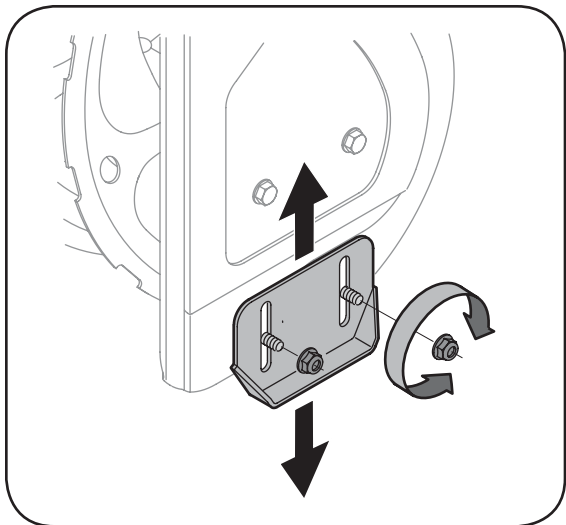
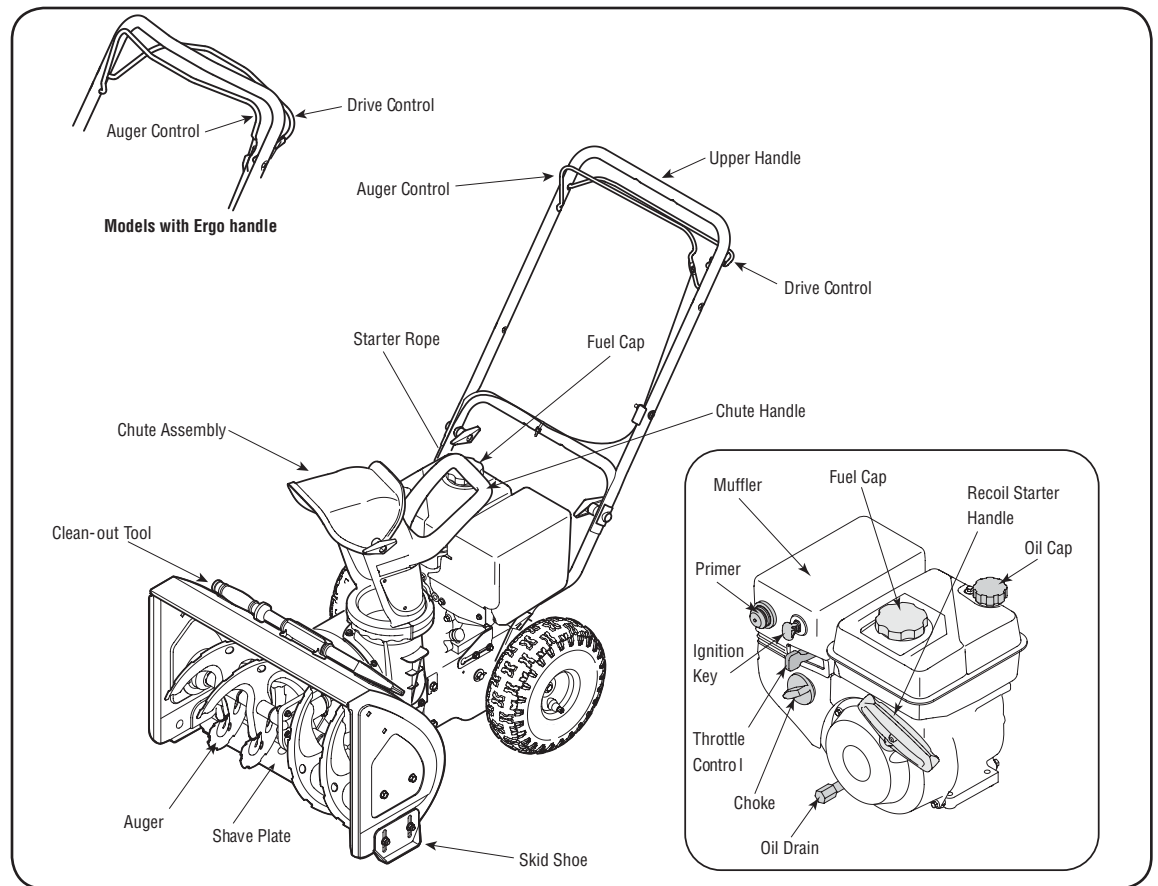

Figure 5
Figure 7
The space between the shave plate and the ground can be adjusted. See Figure 7. For close snow removal, place skid shoes in the low position. When the area to be cleared is uneven, place skid shoes in the middle or high position. See Figure 5.
1. Adjust skid shoes by loosening two hex nuts and carriage bolts on each skid shoe, and moving the skid shoe to the desired position. See Figure 5.